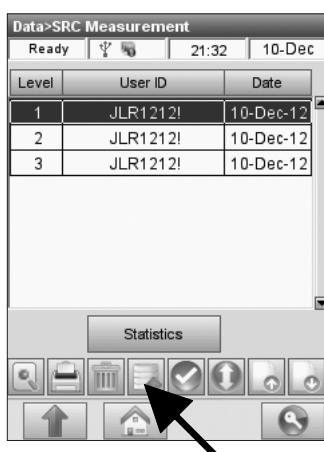

Fig. 6-31 Export Data
3. Select the data to be exported and press **<Export>**  to start the data transfer (Fig. 6-31).